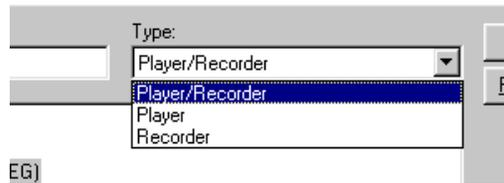

Figure 146. Choosing a channel type
2. Choose an appropriate channel type: **Player/Recorder**, **Player**, or **Recorder** (see Figure 146). Depending on the channel type, different codec or encoder/decoder information is displayed below the configuration tree as listed in Table 15.